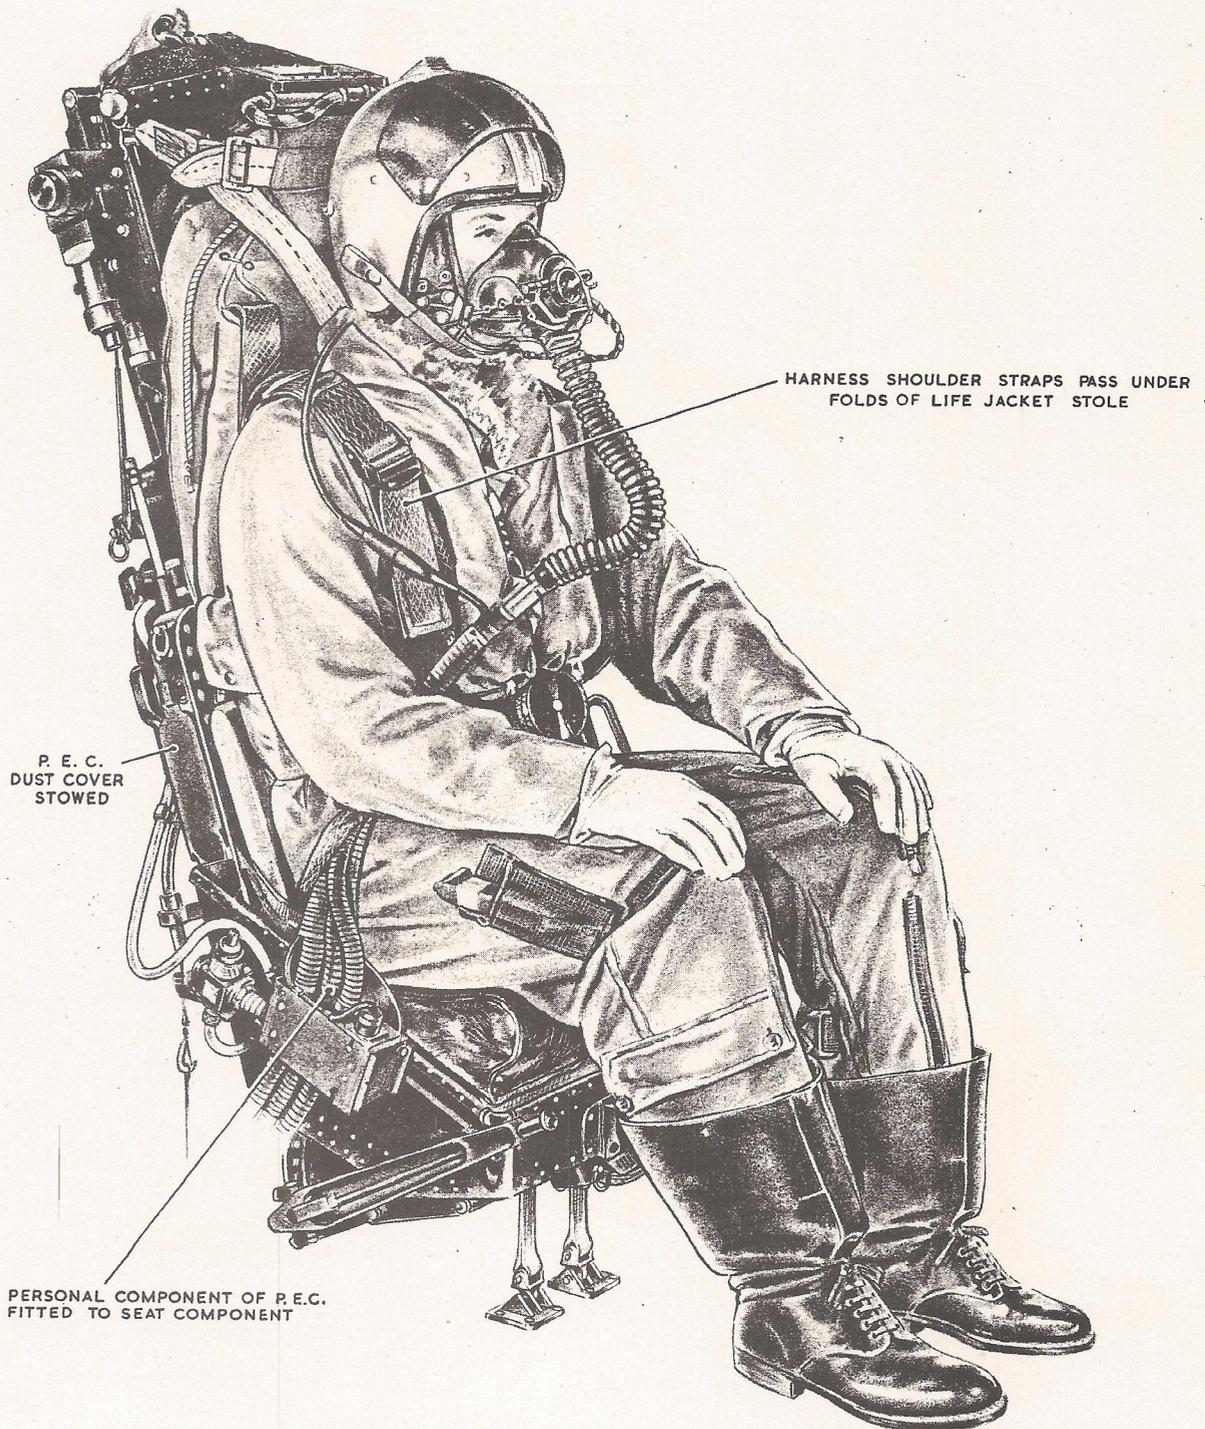

Fig. 7. The seat occupied (2)
- (12) Pass the left leg loop through the D-ring on the left lap strap (from the inside outwards). Pass the lug of the left shoulder strap through the leg loop (from the outside inwards) and insert the lug into the harness quick-release fitting (fig. 7).
- (13) Repeat for the right leg loop and shoulder strap, ensuring that both straps pass outside the oxygen supply hose. ▶ ◀
- (14) Snug the leg loops over the shoulder strap lugs, NOT the webbing of the shoulder straps.
- (15) Sit upright and tighten the inner (blue) shoulder straps followed by the outer (khaki) straps ensuring that the shoulder straps pass under the folds of the life jacket stole. This will ruck the lift webs between the straps; these rucks should be removed by the ground-crew member pulling the surplus material to the back. If necessary, repeat the operation and wriggle the shoulders sufficiently for the straps to bed down into the clothing, etc. Do not tighten the shoulder straps excessively as this causes arching of the back which is an unsuitable position for ejection. The aim is to tighten the